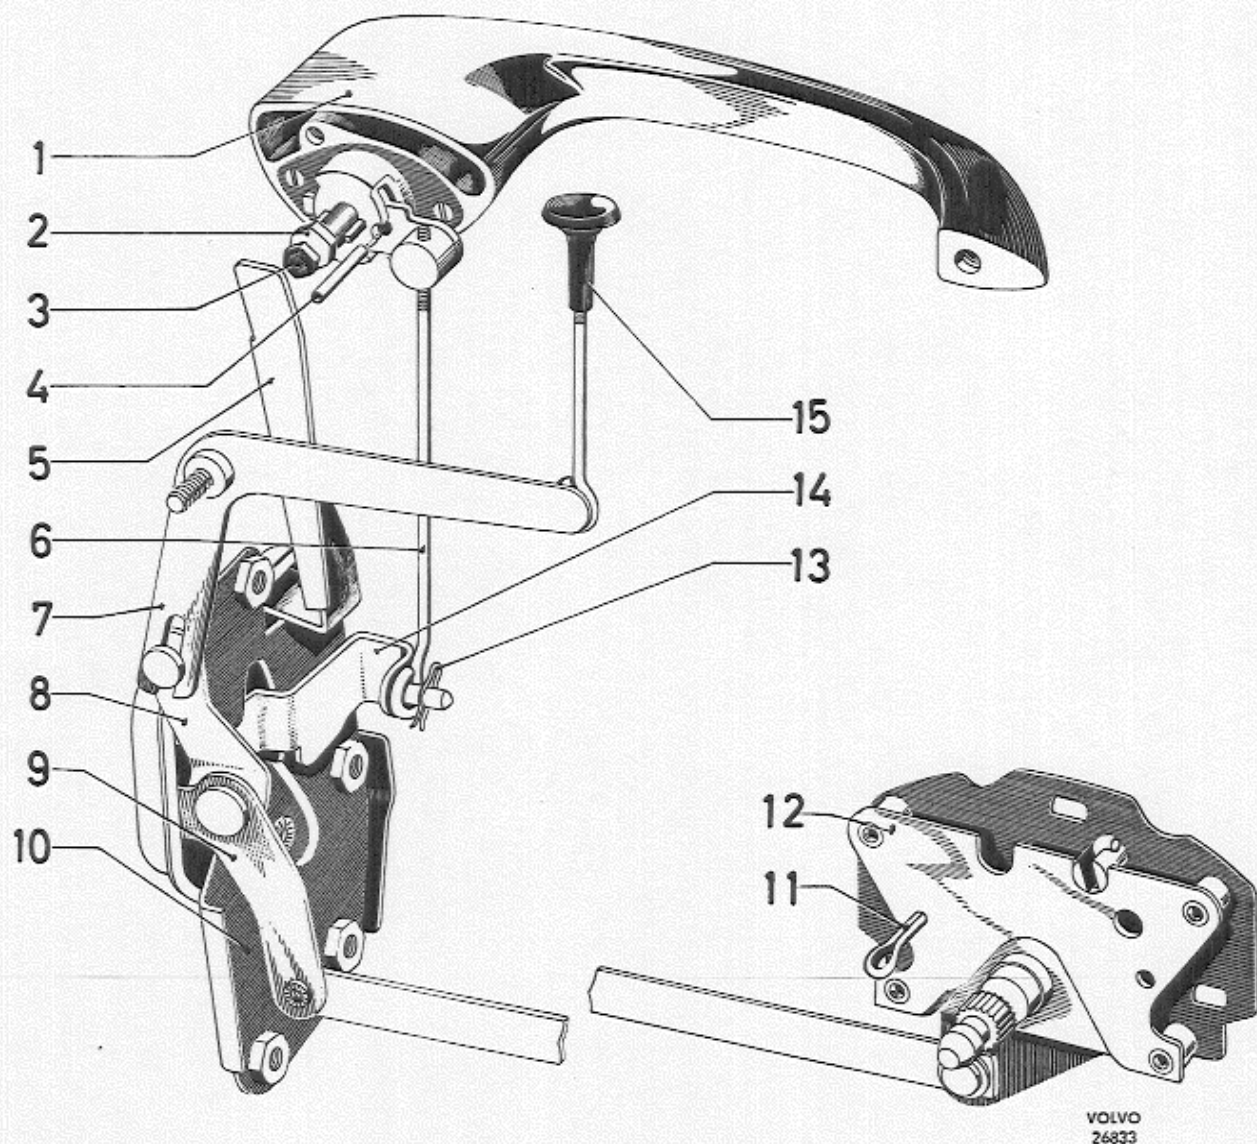
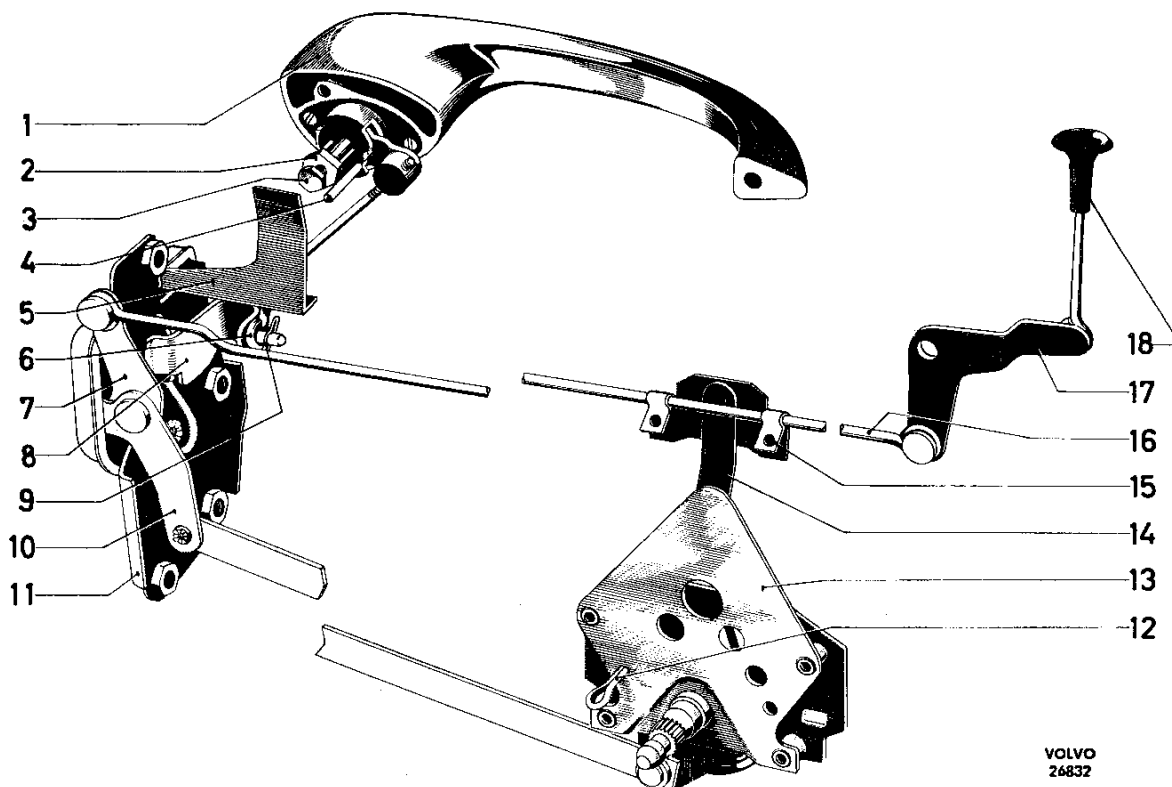
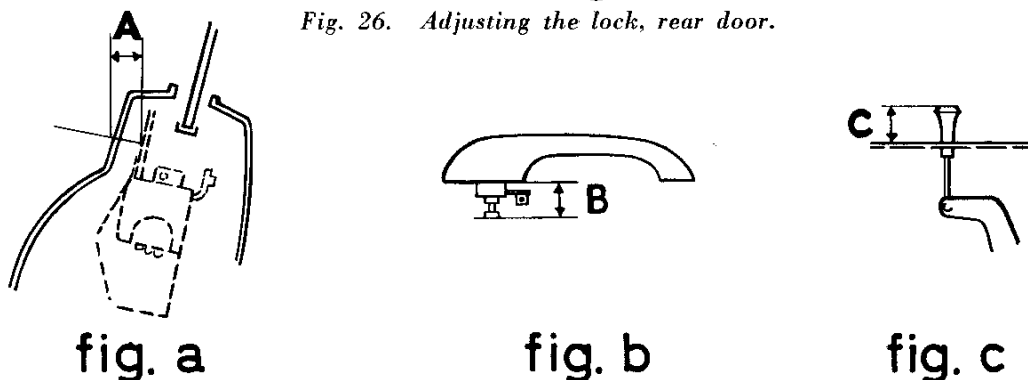

Fig. 25. Adjusting the lock, front door.
Fig. 26. Adjusting the lock, rear door.
Fig. 27. Adjusting measurements for the lock.
1. Fit the lock (10, Fig. 25) with the remote control (12) into the door without tightening the screws.
2. Adjust the measurement A (fig. a, Fig. 27) to 15 ± 0.5 mm (0.59 ± 0.02 ") by turning the lock. Tighten the lock hard. If turning the lock is not sufficient to obtain the correct measurement for A , the lock must then be screwed up as near to A as possible and the remaining adjustment done by bending the lever (5). The measurement A must be kept within the given tolerances.
3. The remote control (12) with split pin (11) inserted is moved backwards so that the
1. Fit the lock (11, Fig. 26) with remote control (13) in the door without tightening the screws.
2. Adjust the measurement A (fig. a, Fig. 27) to $17 \pm 0.5 \text{ mm}$ ($0.67 \pm 0.02''$) by turning the lock. Tighten the lock hard. If turning the
1. Check that the measurement B (fig. b, Fig. 27) = 15 ± 1 mm (0.59 ± 0.04 "). Adjust if necessary. Tighten the locknut (2) on the bolt (3, Fig. 25).
2. Fit the outer handle (1) with link (6).
3. Connect the link (6) to the lever (14). When doing this, one of the three holes in the link must be selected so that the recess and hole in the outer handle coincide. This can be checked by inserting the pin (4) into the hole in the outer handle as shown in the figure. The pin should go right in when the press button (15) is depressed, that is to say, the lever (7) is depressed and the lever (8) moved back against the lock.
1. Check that the measurement B (fig. b, Fig. 27) = 15 ± 1 mm (0.59 ± 0.04 "). Adjust if necessary. Tighten the locknut (2) on the bolt (3), Fig. 25.
3. Connect the link (6) to the lever (14). The lever in the handle must be adjusted in such a position that a pin (4) (3 mm = 0.12") can be inserted into the hole in the handle. Adjustment is carried out by screwing the link up or down so that the eye (6) of the link coincides with the lever (14) on the lock.
1. Check that the measurement B (fig. b, Fig. 27) = 15 ± 1 mm (0.59 ± 0.04 "). Adjust if necessary. Tighten the locknut (2) on the bolt (3), Fig. 26.
3. Connect the link (6) to the lever (8). The lever in the handle should be adjusted to such a position that a pin (4) (3 mm = 0.12") can be inserted into the hole in the handle. Adjusting is carried out by screwing the link up or down so that the eye (6) coincides with the lever (8) on the lock.
Measurement C (fig. c, Fig. 27) when in the pressed down position should be 12 ± 1 mm (0.47 ± 0.04 ") for both the front and rear door.